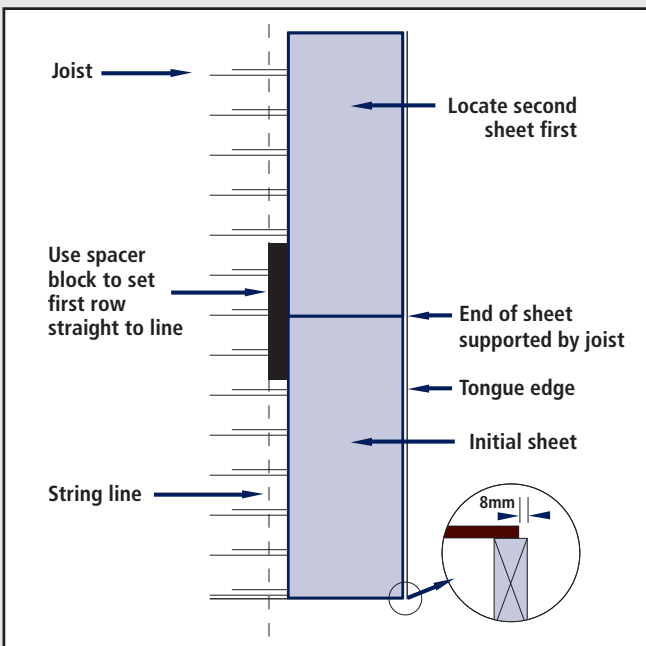

Figure 2
- Use a string line when laying the first row of panels (see Figure 2).